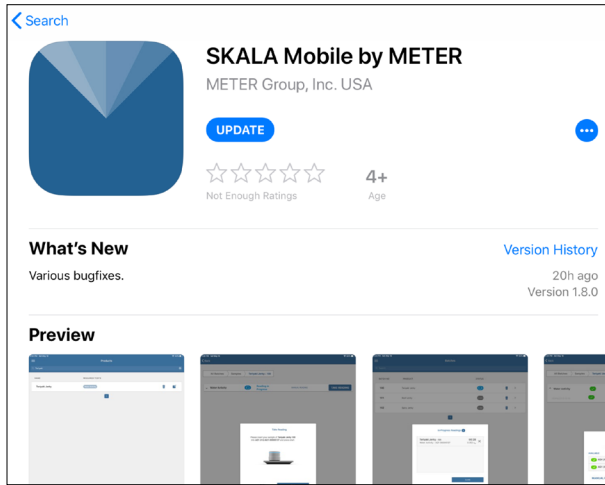

Figure 5 SKALA Mobile screen
4. Download the SKALA Mobile app (Figure 5).